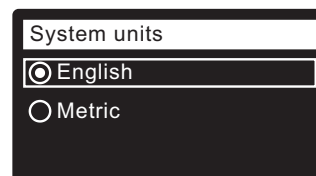

FIG. 20
17. **SYSTEM UNITS** If the desired system already has a dot next to it (See Figure 20), go to Step 18. Otherwise, press the DOWN (▼) or UP (▲) buttons to scroll to the desired system, then press the SELECT (O) button to choose it.
18. Press the SELECT (O) button.